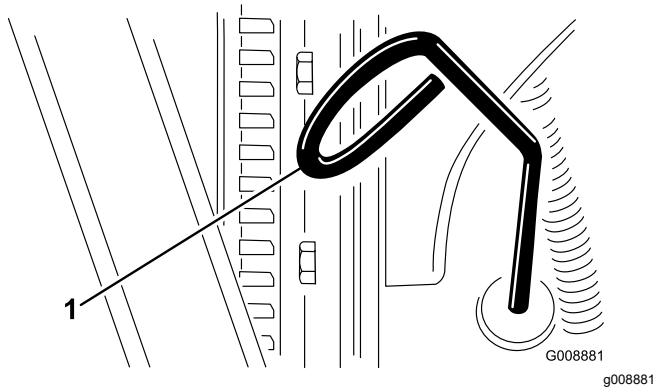

Figure 61
3. Remove the dipstick (Figure 61) and wipe it with a clean rag.